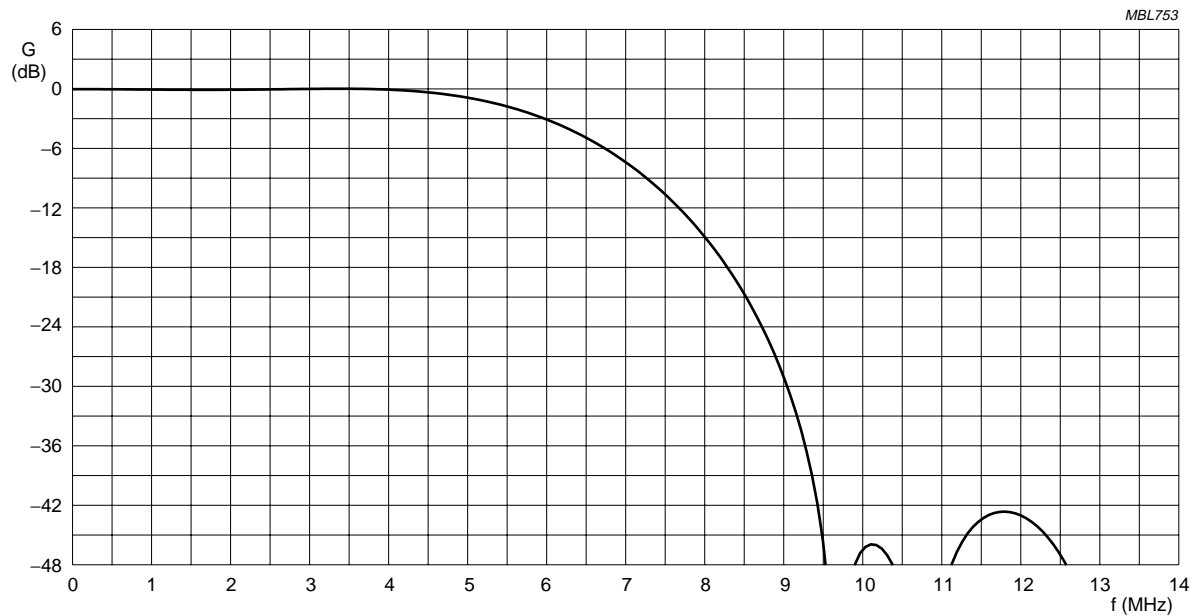

Fig.4 Decimation filter.
The SAF7118H offers sixteen analog signal inputs, four analog main channels with source switch, clamp circuit, analog amplifier, anti-alias filter and video 9-bit CMOS ADC with a Decimation Filter (DF); see Figs 4 and 7.